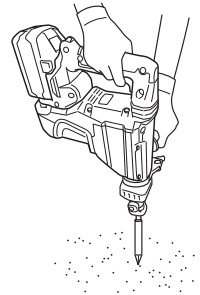

Fig. 25
2. How to chisel or demolish (Fig. 25)